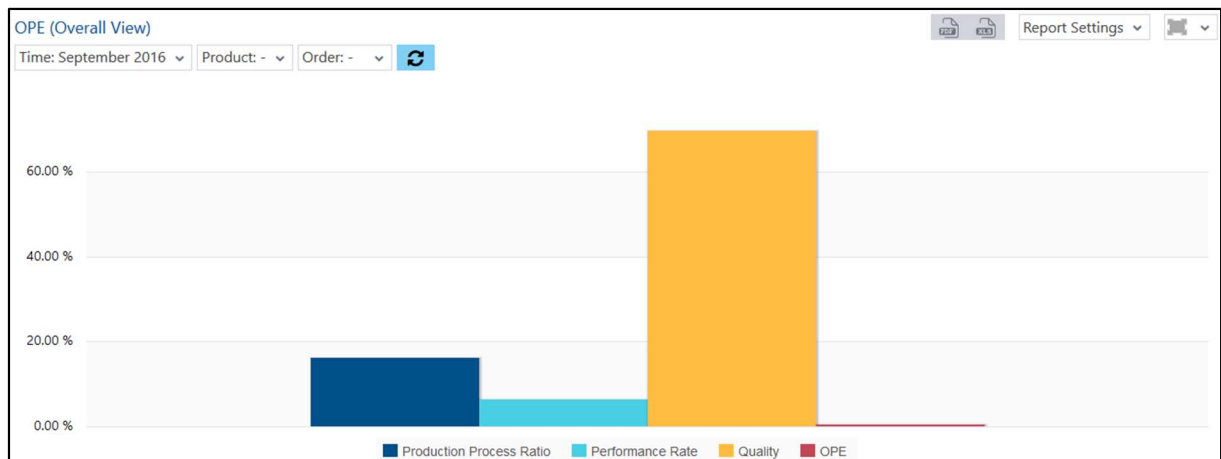

Fig. 124: OPE report as a column chart
- OPE report as a column chart (Fig. 124):